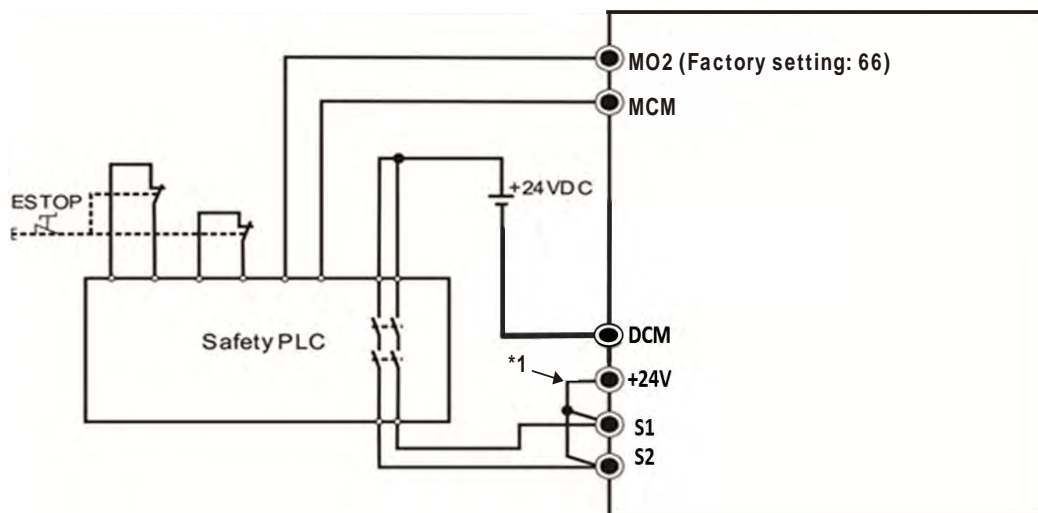

Fig.17-3
2. The wiring is shown in Fig. 17-3 below. Normally, you must close the ESTOP contact switch, so the drive can output without displaying an error.